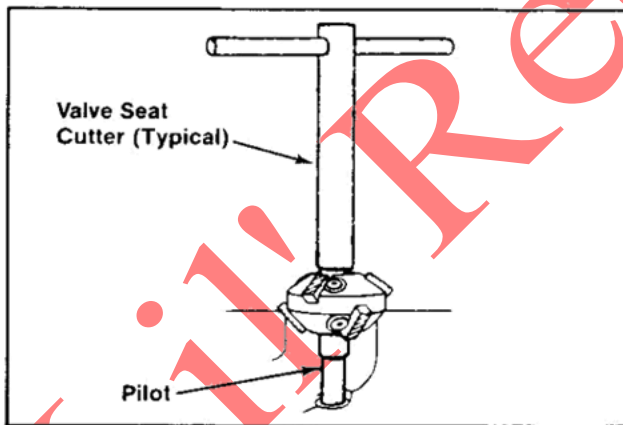

Figure 10-10. Typical Valve Seat Cutter.
3. Use a valve seat cutter (see Figure 10-10) and cut seat to dimensions shown in Figure 10-5.